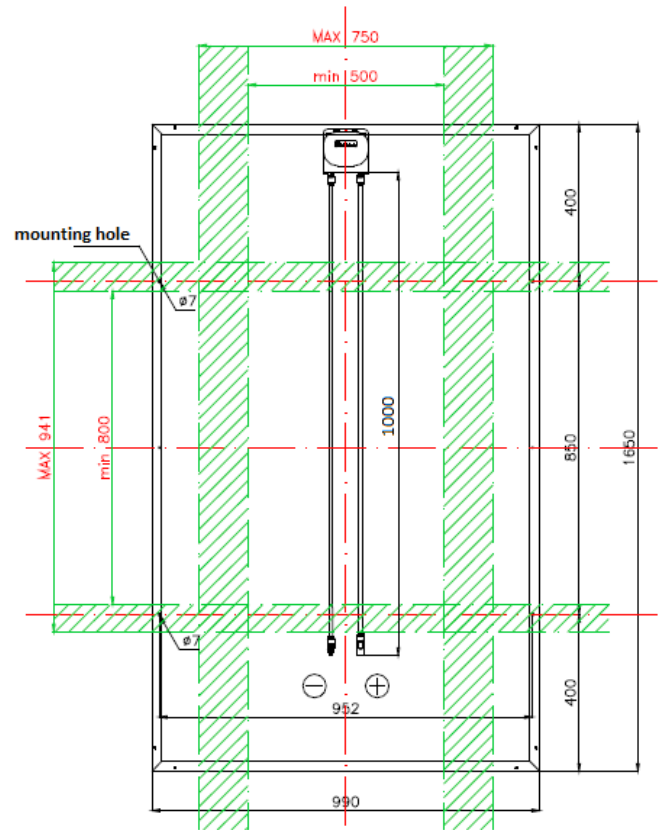

Fig. 5a: allowed positions for fixing SLA modules using mounting clamps.
- Both base structures must be mounted at the same distance from the symmetrical axis (vertical or horizontal) of the module (Fig. 5a/5b).
- If the bars or rails are in vertical direction, they have to be placed nearby the corner holes or in any case a spacing of 800-941 mm between the bars has to be maintained in order to achieve the 5.4 kPa load rating (Fig. 5a/5b).
- If the bars or rails are in horizontal direction, they have to be placed with a spacing of 500-750 mm in order to achieve the UL specified 2.4 kPa load rating (Fig. 5a/5b).
- The modules can also be fixed by placing them with their frame on a structure that is supporting the two sides of the frame over their whole length. In this case, the position of the mounting clamps must be in accordance with the above mentioned spacings (800-941 mm and 500-750 mm respectively) - refer also to Fig. 5a/5b.